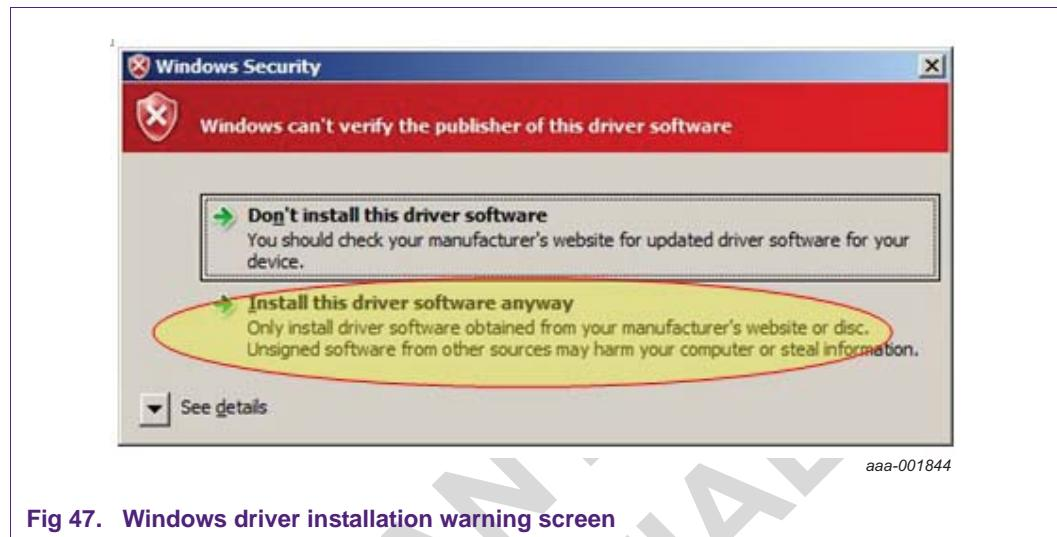

Fig 47. Windows driver installation warning screen
- If a warning screen appears (see Figure 47), ignore the warning and select the lower option “Install this driver software anyway”.
- The driver installation progresses and when fully installed, it opens the screen depicted by Figure 47. Select “Close” to complete the process.